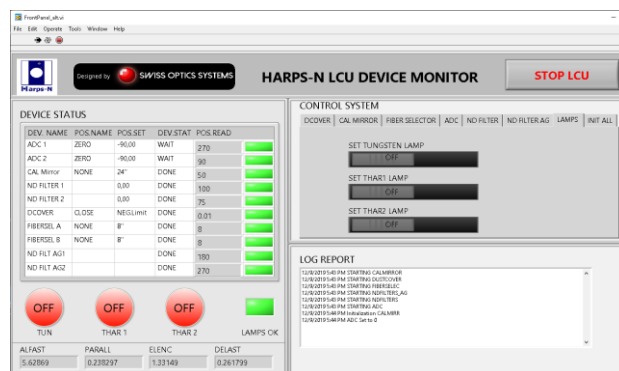

Figure 4 - LCU Device Monitor
3. On the **LCU Device Monitor** verify the lamps status (Figure 4)
3. On the *LCU Device Monitor* verify the lamps status (Figure 4)